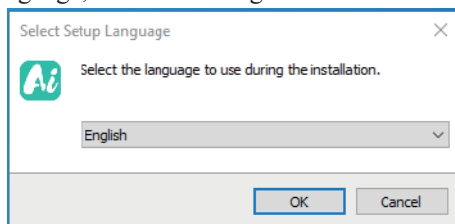

Figure 3
b) Select setup language, as shown in Figure 3: